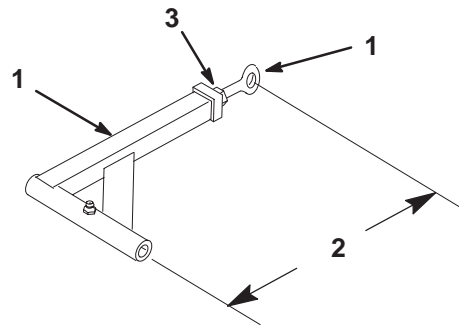

Figure 63
- If the fixed idler contacts the end of the adjustment slot and more belt tension is required, a small change to lengthen the push arms can be made (Fig. 63).